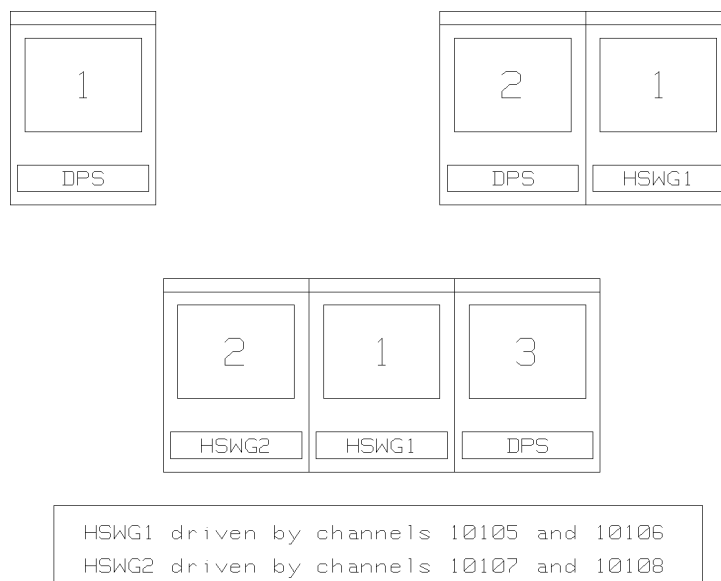

Figure 5-17. HSWG Locations
4. HSWGs can be installed in the instrument slot under the card-cage, or outside the mainframe. See Figure 5-17.
These rules are summarized in Figure 5-17 which shows the allowed locations of HSWGs in different system configurations.